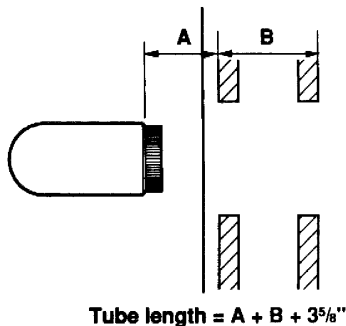

Fig.14 Vent terminal length
- 10.7 Measure the distance from the elbow or horizontal extension to the wall allowing for the amount of overlap where the elbow or extension enters the terminal unit (figure 14 dimension "A").
- 10.8 Calculate the total length of terminal required. This length is:- Elbow or extension to wall (figure 14 dimension "A") + Wall thickness (figure 14 dimension "B") + $3\frac{5}{8}$ " (terminal length outside wall).